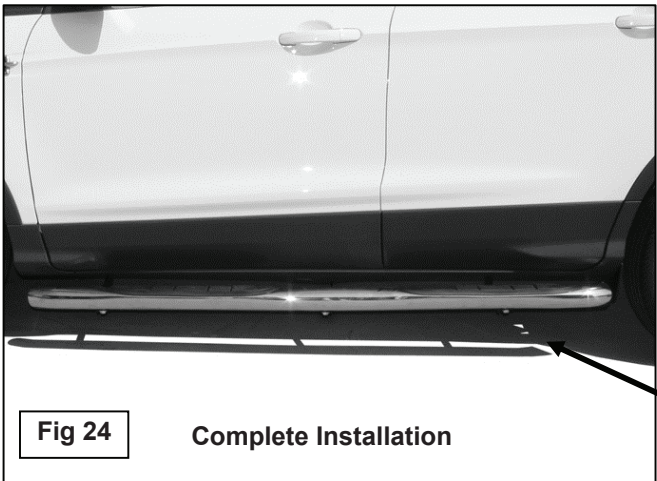

Fig 24 Complete Installation
10. Carefully unwrap and select the driver Sidebar. Place the Sidebar in position on top of the (3) Brackets. **NOTE:** It may be necessary to loosen the Brackets slightly to line up the cradles with the threaded inserts in the Sidebars. Bolt the Sidebar to the Brackets with (6) M10 x 30mm Hex Bolts, (6) M10 Lock Washers and (6) 10mm flat washers, **(Fig. 24)**.